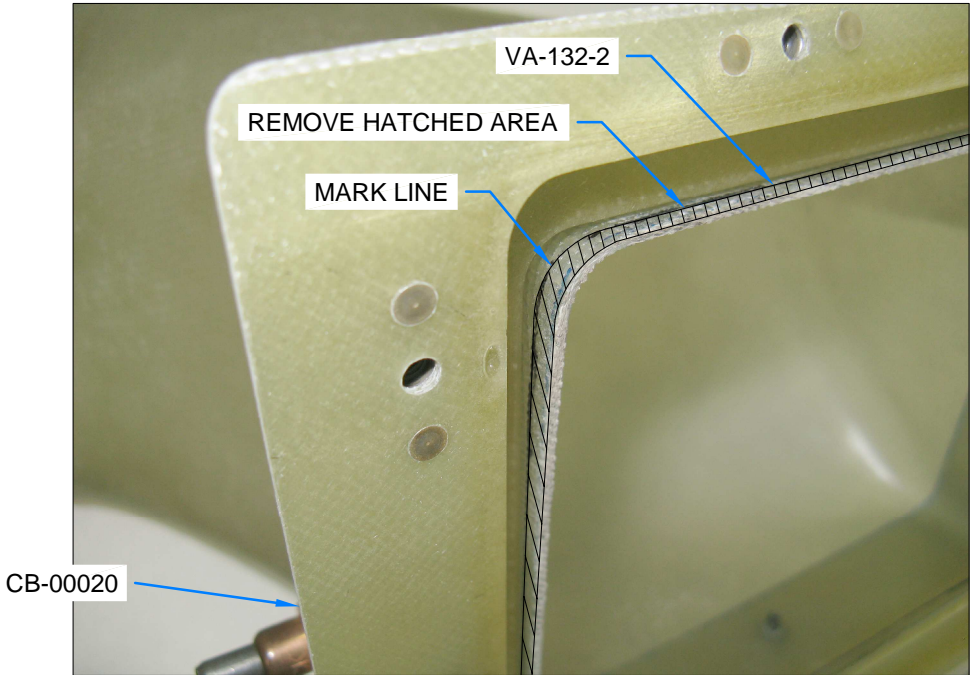

FIGURE 2: TRIM UPPER EDGE
Step 9: Mark the upper edge of the snorkel for trimming where it meets the air filter frame as shown in Figure 2.